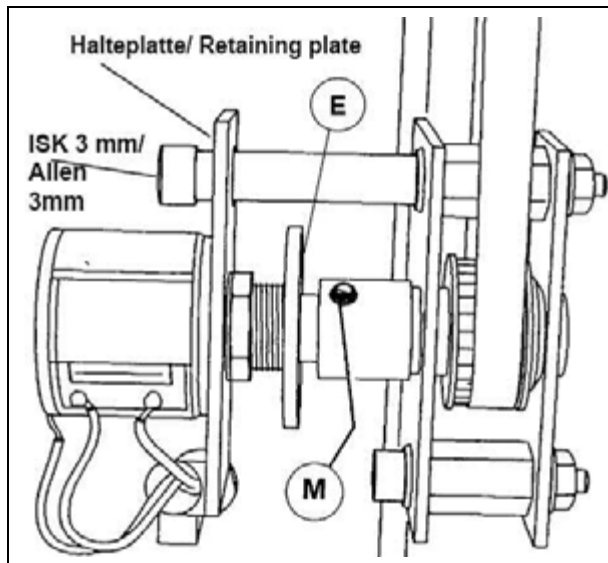

Fig. 4: Replacing the potentiometer
- Move the unit so that the set screw becomes accessible ((M/ Fig. 4 / p. 35)).
- Remove the Allen 1.5 mm set screw on the connecting piece of the potentiometer shaft ((M/ Fig. 4 / p. 35)).
- Remove the potentiometer retaining plate ((ISK 3 mm/ Fig. 4 / p. 35)).
- Remove the adjustment wheel ((E/ Fig. 4 / p. 35)) and the retaining parts from the potentiometer shaft.
- Set the ADC value to the corresponding value using the adjustment wheel ((E/Fig. 4 / p. 35)) (Refer to the detailed description for the corresponding potentiometer).